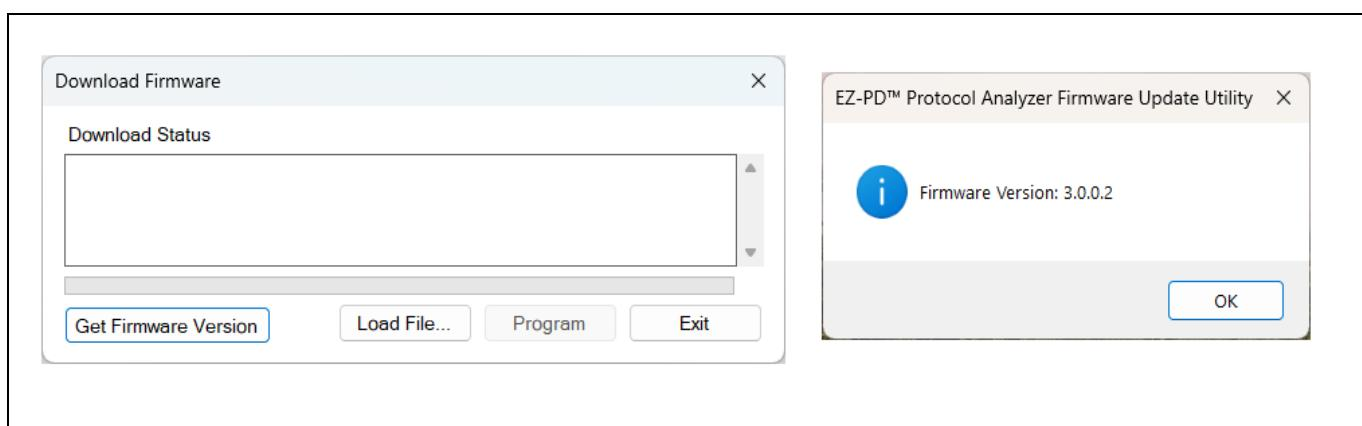

Figure 15 Get the current firmware version and dialog box
2. On the host PC, launch the download firmware application from *<install location>\EZ-PD Protocol Analyzer Utility\Firmware_Update_Tool\ EZPD_Firmware_Update_Tool*. The utility's start-up page looks similar to the image shown in Figure 15.
3. Check the current firmware loaded on the EZ-PD™ Protocol Analyzer hardware by selecting **Get Firmware Version** as shown in Figure 15. A dialog box showing the current firmware version appears.